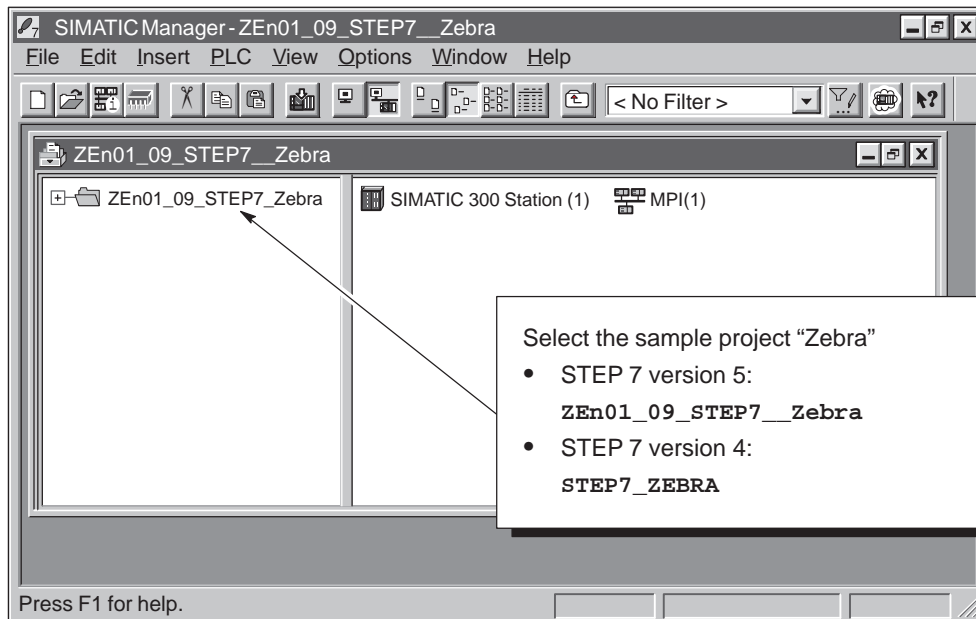

Figure 3-7 Sample STEP 7 Program (ZEn01_09_STEP7__Zebra)
STEP 7 opens the sample project. See Figure 3-7.